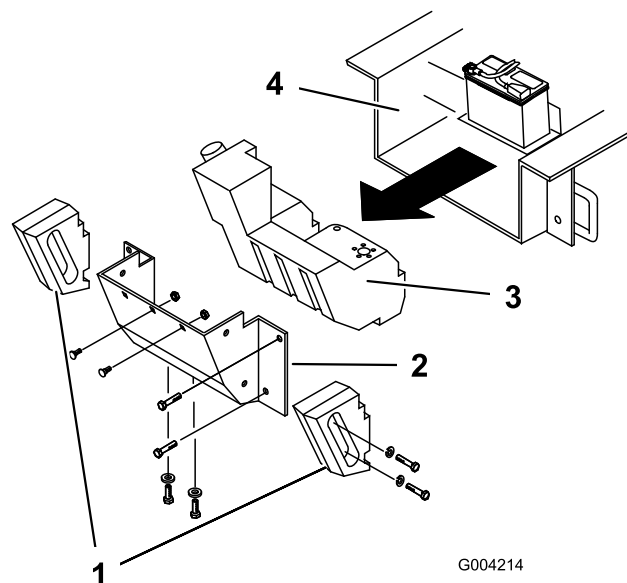

Figure 58
Over time, the chassis under the engine collects dirt and debris that must be removed. Using a flashlight, open the hood and inspect the area under the engine on a regular basis. When the debris is 1 to 2 inches deep, complete the following procedure (refer to Figure 58 throughout this procedure):
4. Remove the bolts, washers, and lock washers securing the two side weights, removing the weights (Figure 58).
7. Remove the six nuts and bolts securing the rear panel, removing the panel (Figure 58).
10. Slide the fuel tank to the rear (Figure 58).
16. Slide the fuel tank part way into the chassis (Figure 58).
21. Replace the rear panel and secure it with the six bolts and nuts removed previously (Figure 58).
23. Install the side weights with the bolts, washers, and lock washers removed previously (Figure 58).